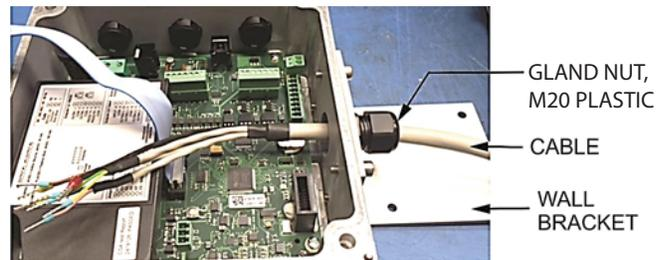

Figure 6: M2000 connector to amplifier housing/bracket assembly
5. Attach the gland nut, M20 plastic, to the amplifier housing/bracket assembly and torque the nut to 5.2 Nm. See Figure 6.
6. Slide the other cable end into the amplifier box. Hold the wires in place and tighten the plastic connector. See Figure 6.